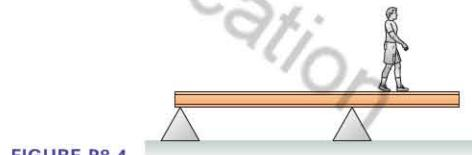

FIGURE P8.4
4. II In Figure P8.4, a 70 kg man walks out on a 10 kg beam that rests on, but is not attached to, two supports. When the beam just starts to tip, what is the force exerted on the beam by the right support?